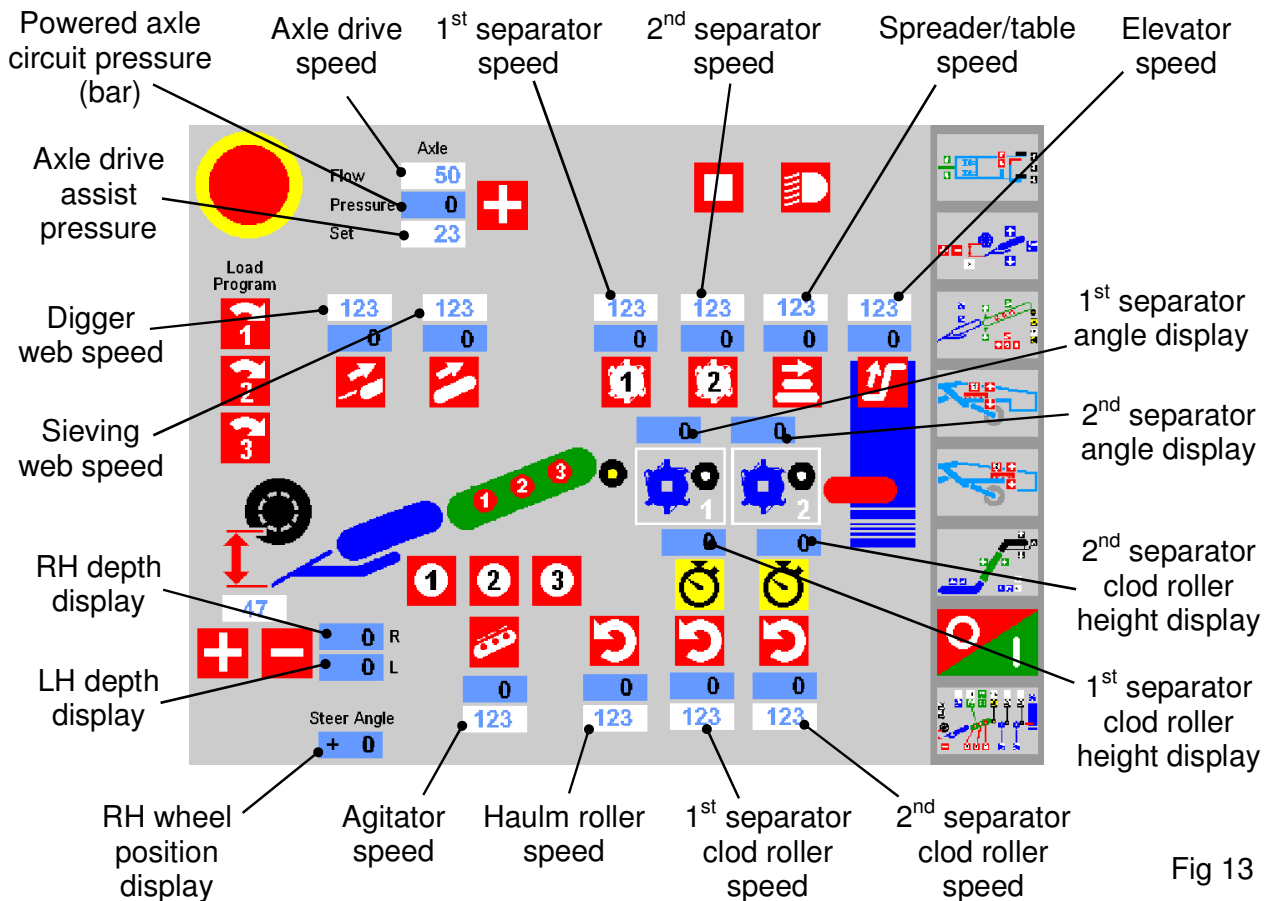

Fig 13
7. To display the correct powered axle circuit pressure (see fig 13), select the pressure transmitter type fitted to your machine (printed on transmitter body).